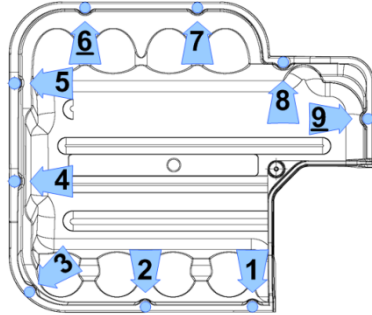

Figure 23 – Top Cover Torque Sequence
7. Place the Top Cover and secure it with the M5x15 fasteners according to the sequence shown in Figure 23 Top Cover Torque Sequence. Follow the sequence twice. The first time, only tighten the fasteners half way down to allow for adjustments. Torque to 13 in.lb. on the second pass.